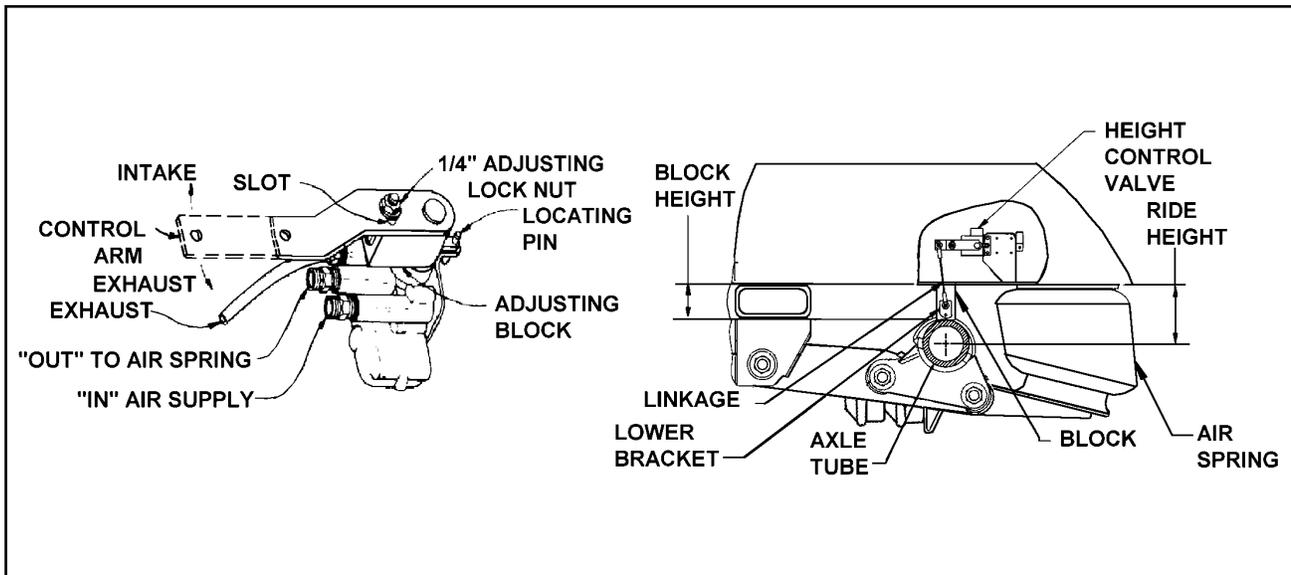

Figure 4-3 Air Ride Height Adjustment
4-6.2 Air Ride Height Adjustment. (See Figure 4-3 for parts identification).
- b. Disconnect linkage at the control arm and raise control arm to the "up" position, raising the trailer until a block can be placed between axle tube and undercarriage frame (See Figure 4-3).
- f. Loosen the 1/4" adjusting lock nut located on the adjusting block, allowing the control arm to move approximately 1 inch. Move the adjusting block until holes align, then insert locating pin. (See Figure 4-3).